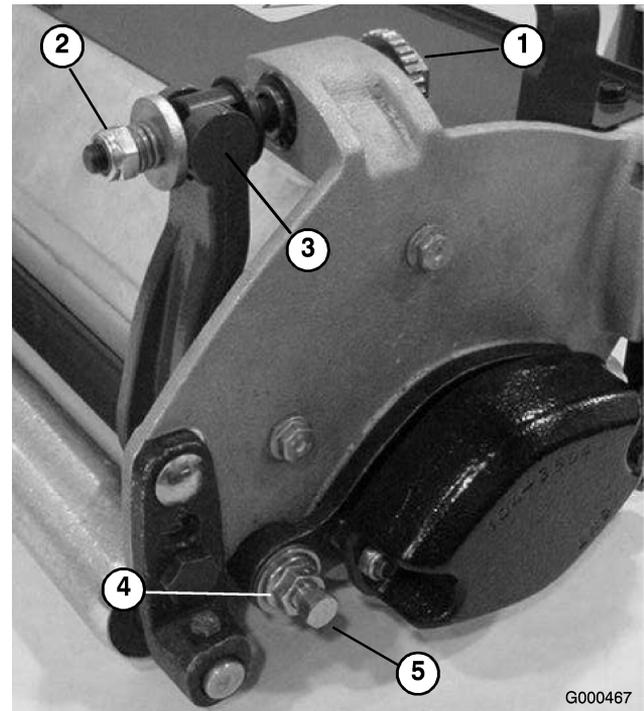

Figure 55
1. Turn bedbar adjuster screw, counterclockwise, to back bedknife away from reel (Figure 55).
2. Back out the spring tension nut, until the washer is no longer tensioned against the bedbar (Figure 55).
3. On each side of the machine, loosen the jam nut securing the bedbar bolt (Figure 55).
4. Remove each bedbar bolt allowing bedbar to be pulled downward and removed from machine. Account for 2 nylon and 2 stamped steel washers on each end of bedbar (Figure 55).